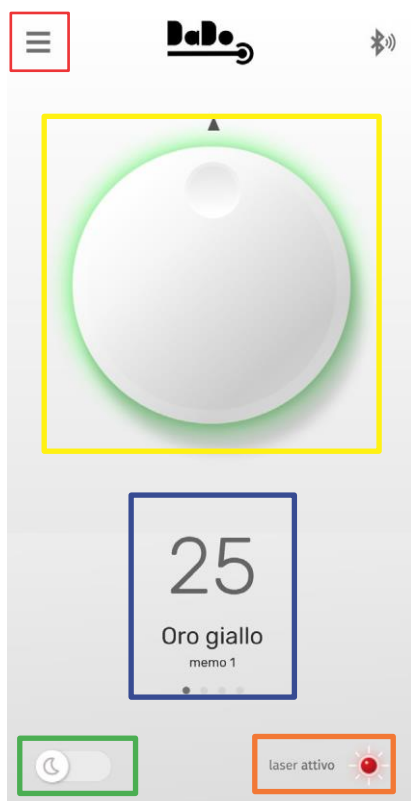
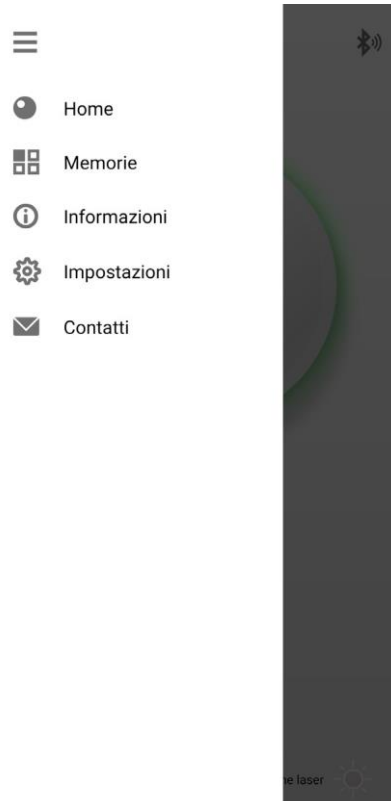

Figure 20 - Home screen controls
Figure 21 - Drop-down menu screen
- MENU ICON (top left highlighted in RED in figure 20). Press the icon for the menu shown in figure 21 to appear.
- SWITCH - button with the moon icon on top at the bottom left corner of the display (highlighted in GREEN in figure 20) that is used to go from the screen with a white background for well-lit environments to the screen with a black background for environments with poor light. Depending on what smartphone/tablet is used, this function can be used by means of the twilight sensor of the device that the application is installed on.
- LASER INDICATOR - characterised by a dot that indicates the state of the laser and is positioned at the bottom right of the display (highlighted in ORANGE in figure 20). The dot can be GREEN when the laser is not running, STEADY RED when the laser is ready for welding and FLASHING RED when the laser is used for welding.
- INTERACTIVE KNOB - at the centre of the screen (highlighted in YELLOW in figure 20) it allows the welding parameters to be selected from the 12 pre-set settings.
- MEMORY CELLS - 4 settings can be saved in addition to the 12 pre-set settings, according to your needs. A “sweep” action on the HOME screen, under the interactive knob, allows you to select the desired setting. The name of the setting and the memory position will appear (highlighted in BLUE in figure 20).